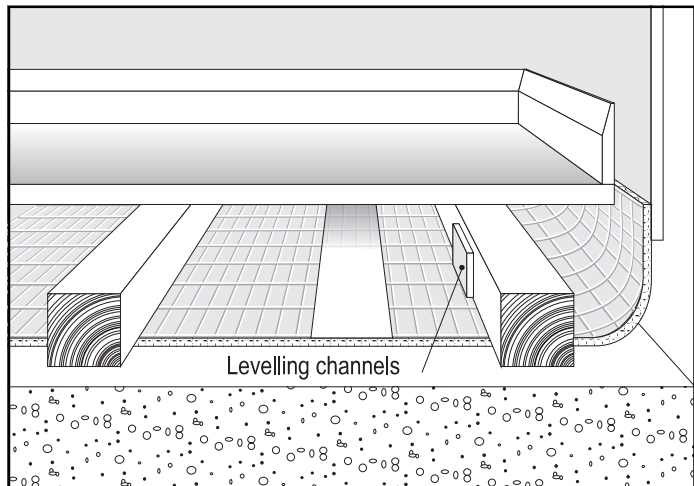

Fig. 1
- 1) The first roll should be rolled across the floor area from wall to wall and cut to size to include an upstand at each end equal to the addition of the battens and boarding to be used + 50mm (i.e. for a 19mm batten and 19mm chipboard the upstand would be $19 + 19 + 50 = 88\text{mm}$ minimum). See fig. 1.
- 2) The long edge of this material should also be dressed up the perimeter wall in the same manner as given in paragraph 1) and shown in fig. 1.
- 3) Further widths of material should be installed as given in paragraph 1) to cover the area of floor. The widths should be sealed with T.E. aluminium tape to ensure that the total floor area is covered with the foil. The last width should be installed against the end wall as given in paragraph 2 and fig. 1.